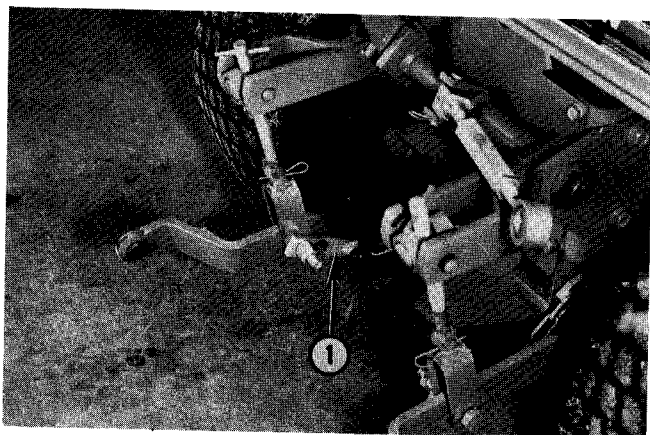

Fig. 59 — Check Chains
3. Place Tractor 3-point hitch check chains in rear hole, Fig. 59.